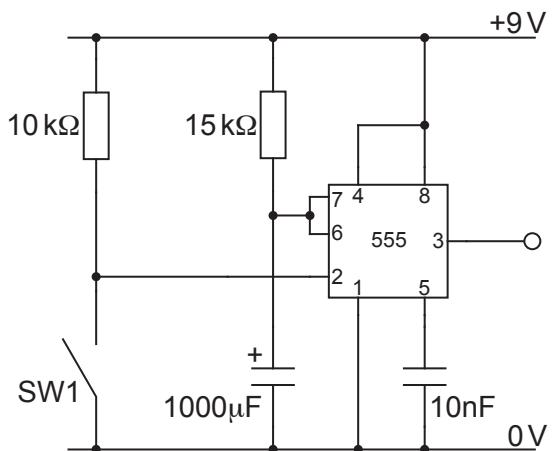

Fig. 11.3
- (c) Fig. 11.3 shows a monostable circuit that uses a 555 timer IC.
- (ii) Switch SW1 in Fig. 11.3 is closed 5 seconds after the circuit is switched on. It remains closed for a further 5 seconds before opening again.